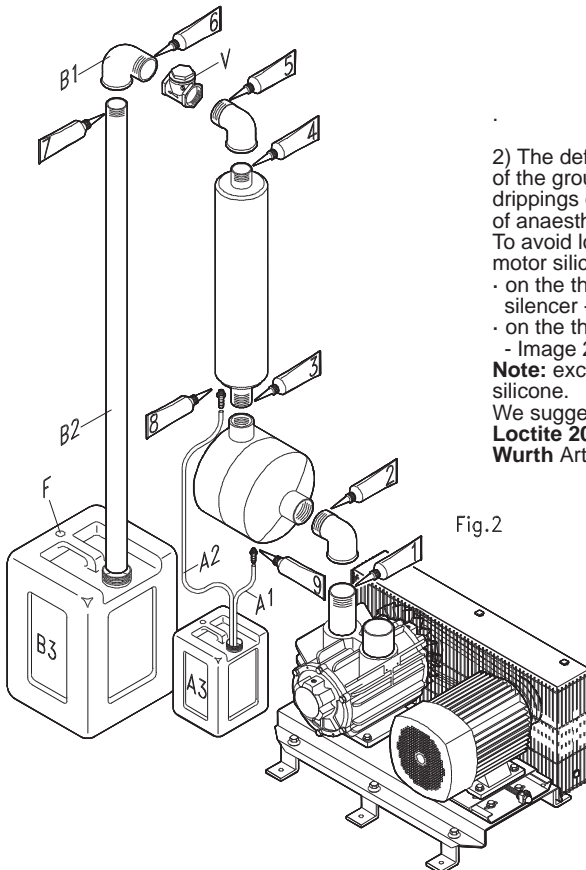

Fig.2
FIG.2 shows the **WRONG** positioning! The oil, when the pump stops, returning would flow into the pump compromising the operation.
- (Fig. 2) Fill the tank with oil and support the two vacuum chambers. The level should reach the slats placed in the slot inlet.